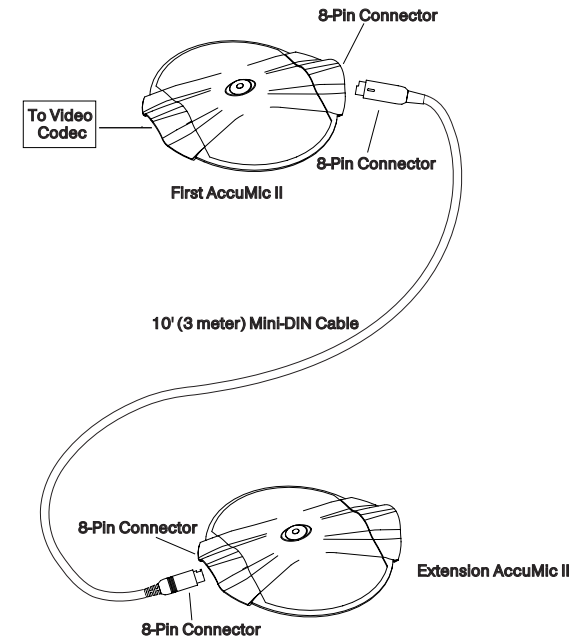

Figure 4. Connecting a second AccuMic II
2. Connect one end of the 10' (3 meter) mini-DIN cable that comes with the AccuMic II extension kit to the 8-pin connector on the first AccuMic II (see Figure 4).